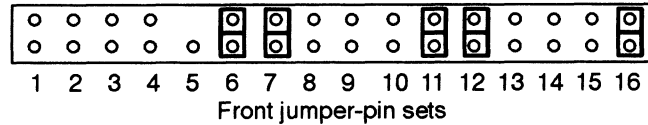

Figure 4 Required jumpers for Model 61005-D, 61006-D, or 61007-D drive (front jumper-pin set)
3. Make sure jumpers are installed across front jumper-pin set 6, 7, 11, 12, and 16, as shown in Figure 4.